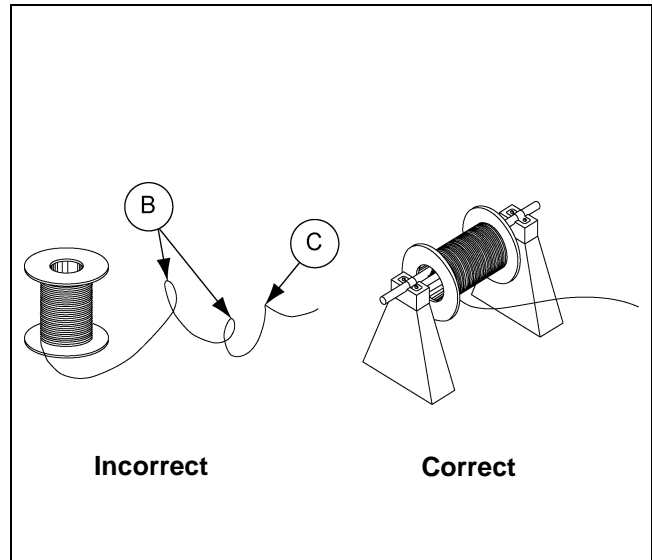

Figure 4B Proper Cable Unspooling
3. Figure 4B shows the proper method for unspooling cable from a reel.